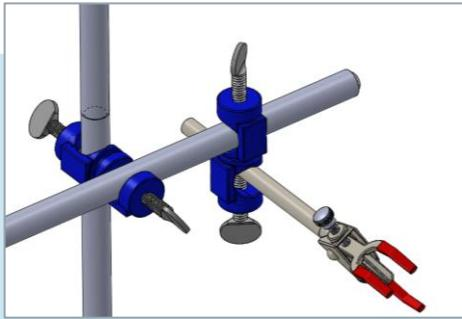

**Figure 6.** Install the Rod and Tighten
4. Place the Rod from Step 3 into the hole in the Base (**D**) and tighten (Figure 6).